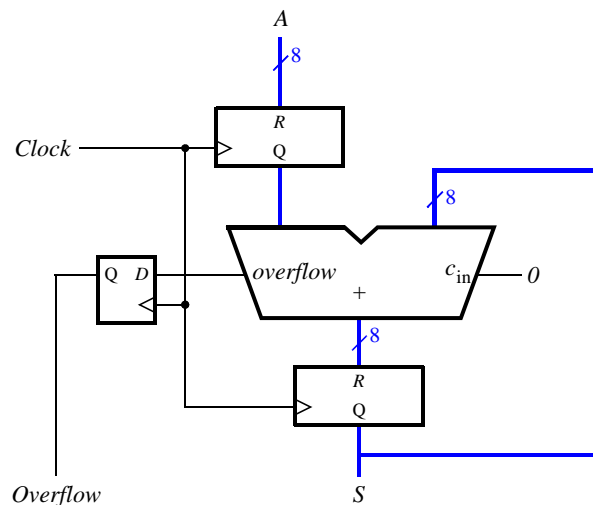

Figure 2: An eight-bit accumulator circuit.
1. Design and test (write a test-bench in vhdl and test in ModelSIM) 8 bit accumulator, as shown in Fig. 2. Extend the circuit to perform addition or subtraction by adding 1 bit opcode and additional required circuitry.
Use this construct to implement a circuit shown in Figure 2.
2. Write VHDL code that describes the circuit in Figure 2.